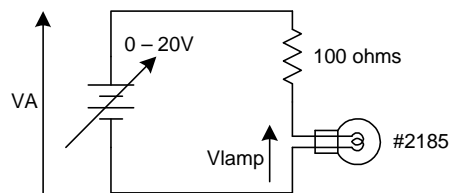

Figure 1: Lamp Test Circuit
- 1.1 Build the circuit in Figure 1. Be careful installing the leads of the lamp as they are small and fragile.